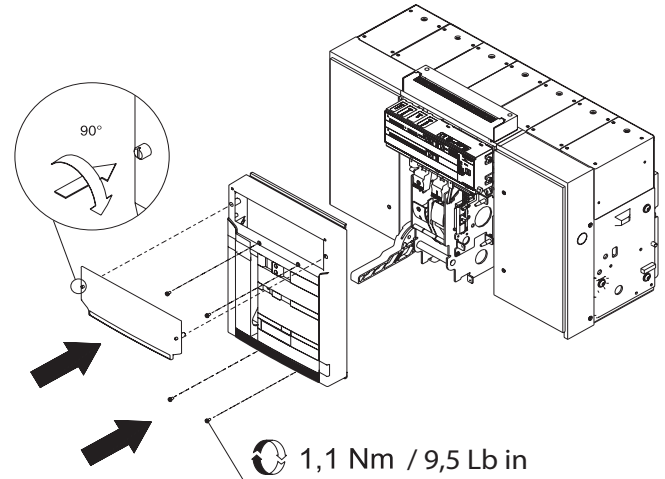

Figure 37.
- Refit the cap as indicated in Figure 37.